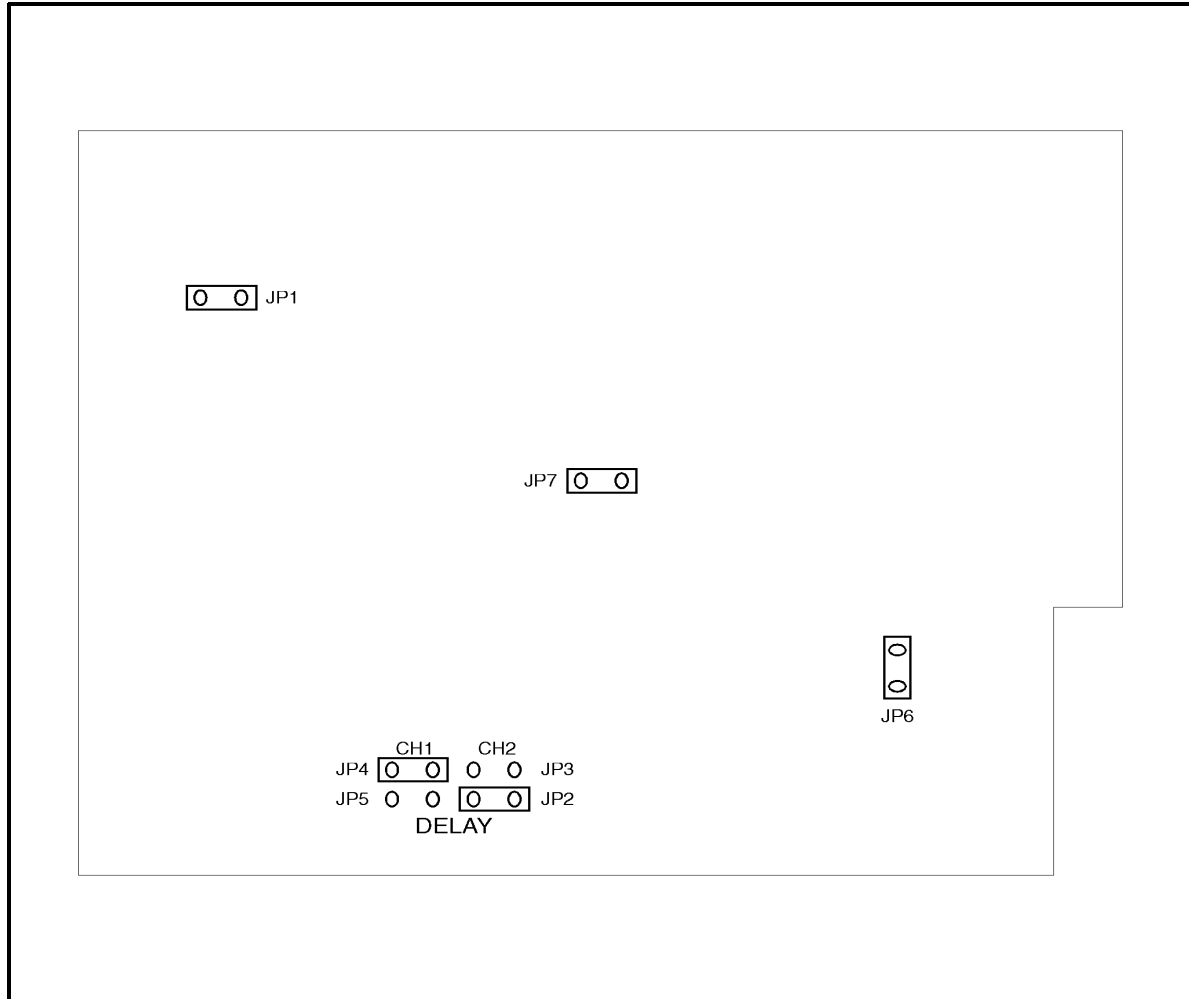

Figure 2.3 Internal Controls
1. When the AIM is shipped from the factory, the transfer times for both ADCs are set at 1 μ s. This will allow a maximum cable length of 4.5 m (15 ft). If these are the desired settings, go to step two. If you'd like to change the transfer time settings, remove the 556A's right side-panel. Referring to Figure 2.3 on page 4, change jumpers JP2-JP5 then replace the right side-panel.